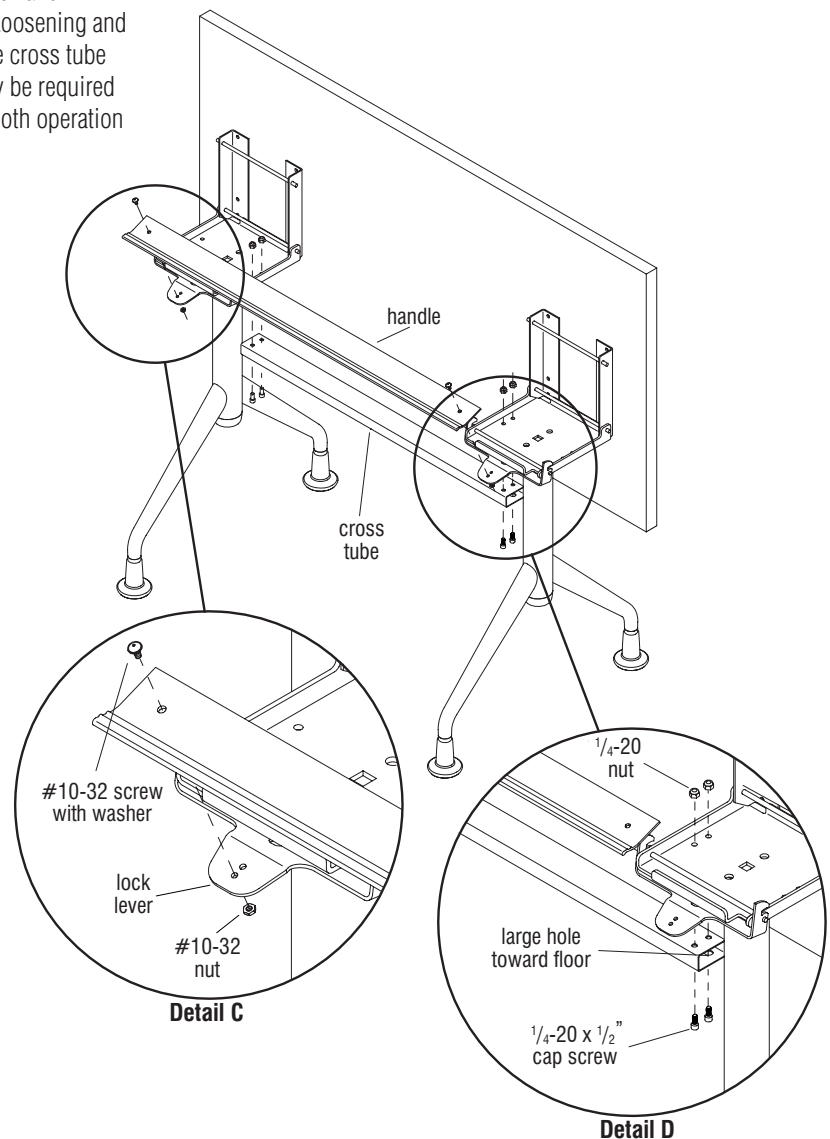

Figure 2
6. With table upright, disengage flip mechanisms and flip table top up until it stops (Figure 2).